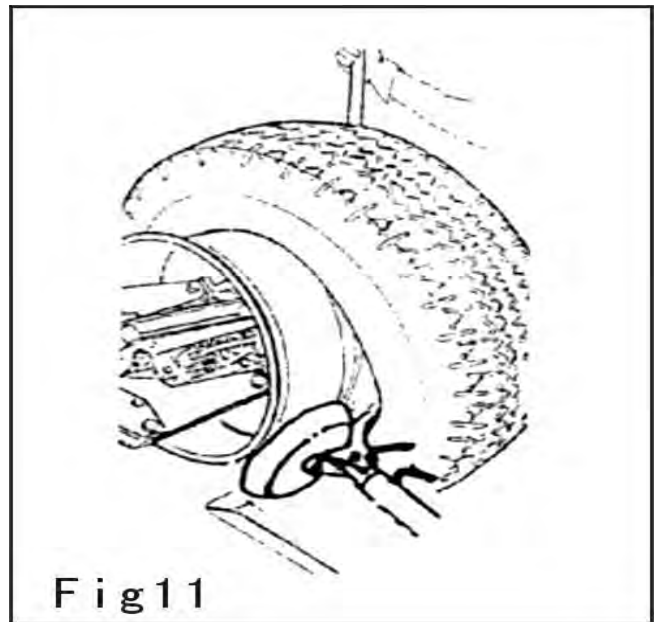

Fig 11
7) Rotate the wheel counter clockwise till the edge of the tire completely come off from the rim (as Fig11) .